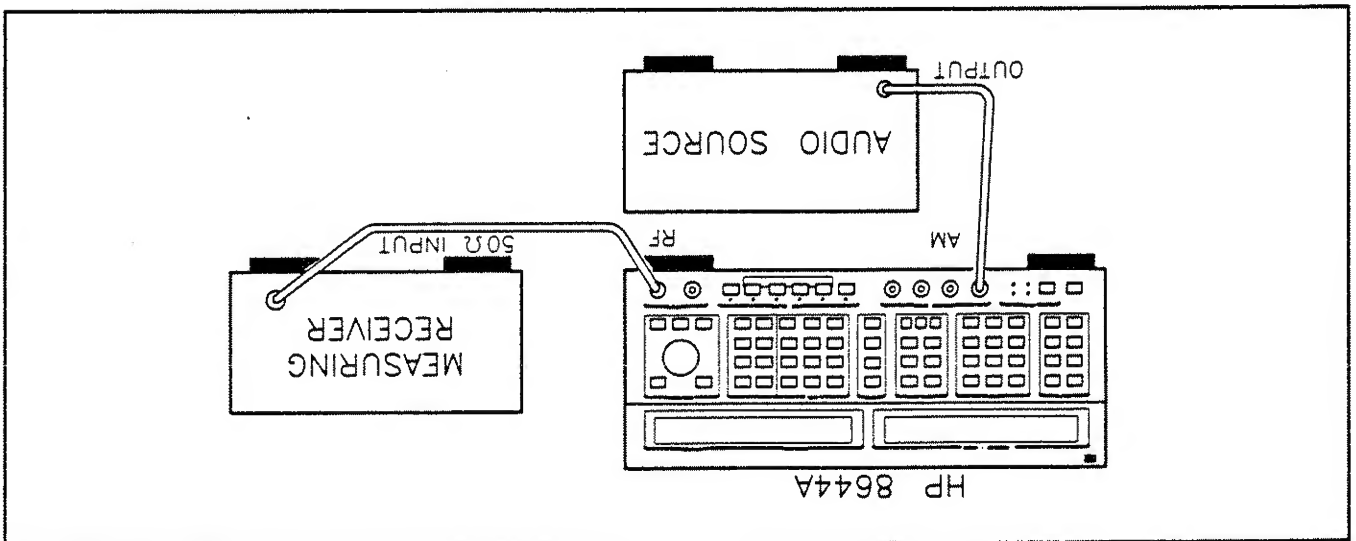

Figure 3-1. AM Test Setup
1. Connect the equipment as shown in figure 3-1.